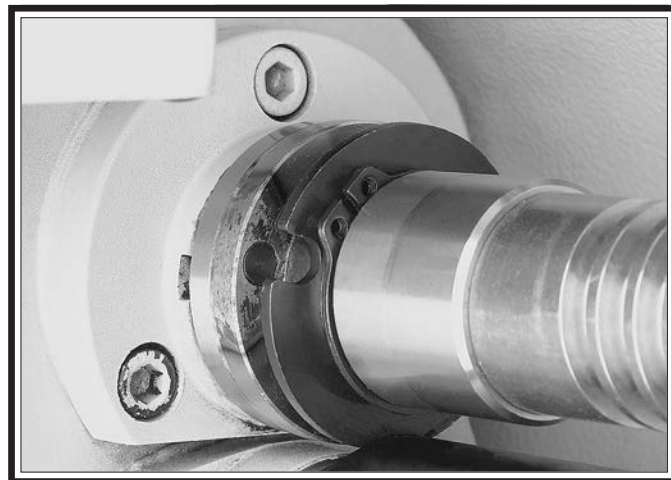

Figure 130. Shear pin access.
4. Move the retaining ring shown in **Figure 130** away from the shroud washer.
5. To make enough room to remove the shear pin, move the shroud washer away from the shear pin and against the retaining ring, as shown in **Figure 130**.